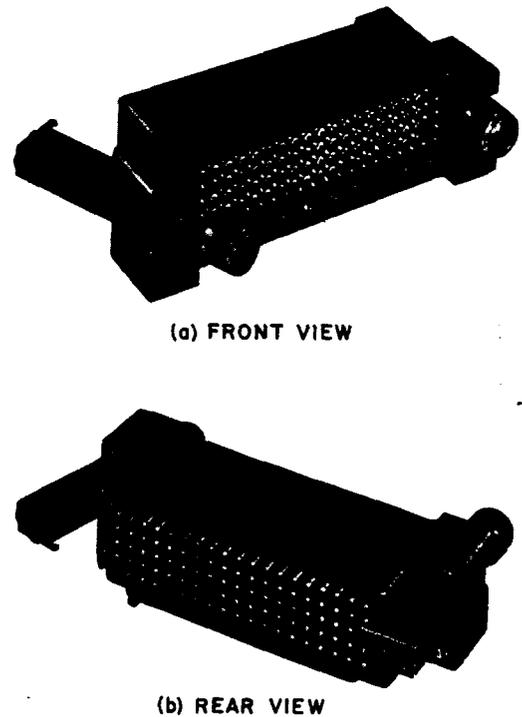

Figure 10—H Test Connector (AT-8461)—For 303-Type Connectors
2.11 The H test connector (Figure 10) is used to make test contacts with the 50 pairs of recessed, gold-plated test terminals on either one of the test terminal fields of the 303-type connector. The test connector contains 100 (50 pairs) spring-loaded contacts. It should not be inverted from one test terminal field to another. Both sets of pair numbering on the test connector have the same orientation.